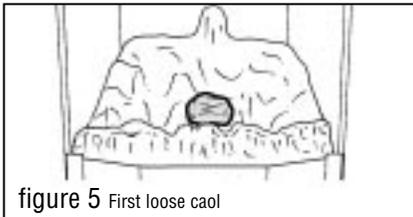

figure 5 First loose coal
- 3 Place one of the loose coals from the bag in the centre of the front base coal. Make sure that it bridges the space between the front and rear base coals. See figure 5.